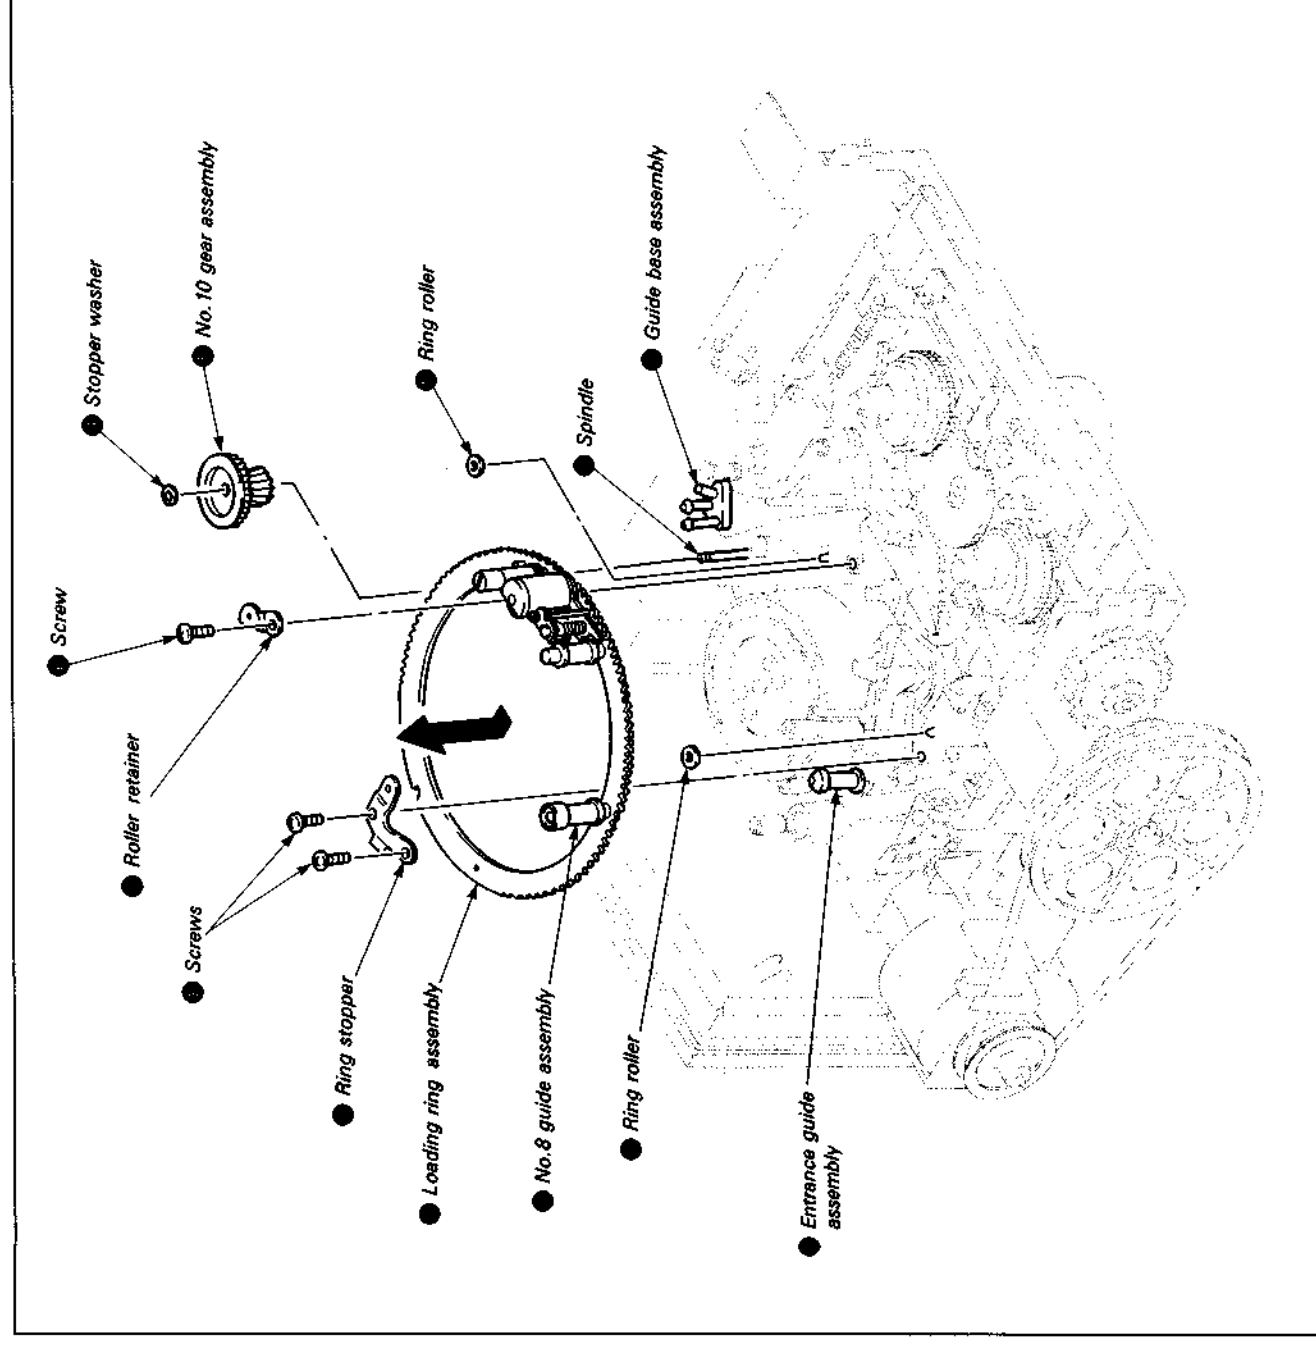

Fig. 7-12.
7-3-7. Loading Ring Assembly (See Fig. 7-12, 13.)
- 7) Remove the loading ring assembly ● as shown by arrow. (See Fig. 7-12.)
- 4) Place a half drop of oil on the spindle ●. (See Fig. 7-12.)
- 1) Remove the loading ring assembly as described in 7-3-7., 1. Removal. (See Fig. 7-12.)
- 6) Mount the loading ring assembly according to 7-3-7., 2. Mounting. (See Fig. 7-12, 7-13)
- 1) Remove the loading ring assembly according to 7-3-7., 1. Removal. (See Fig. 7-12.)
- 5) Mount the loading ring assembly according to 7-3-7., 2. Mounting (See Fig. 7-12, 7-13.)